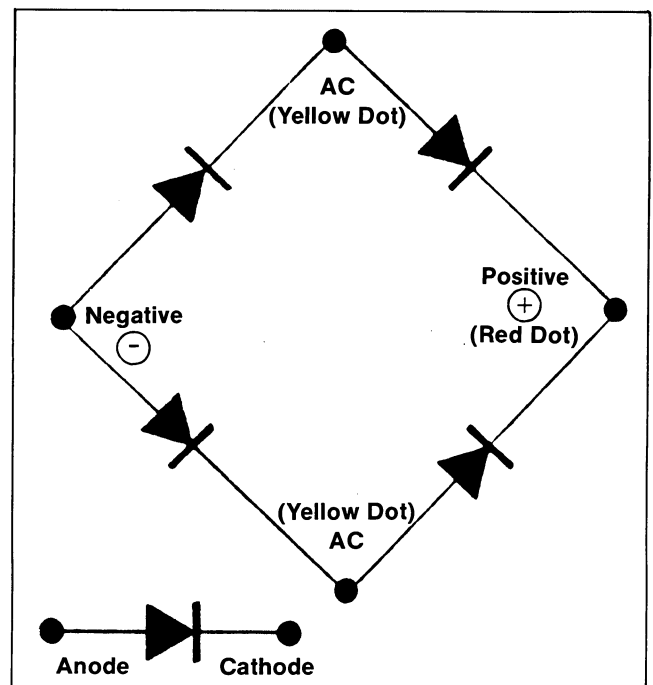

Figure 1-15. Rectifier (4 Diodes)
The test is the same as if (4) separate diodes were being checked. Diodes, as you know, allow current to pass in one direction and offer high resistance in the other direction. Figure 1-15 shows how the diodes are connected inside the rectifier.